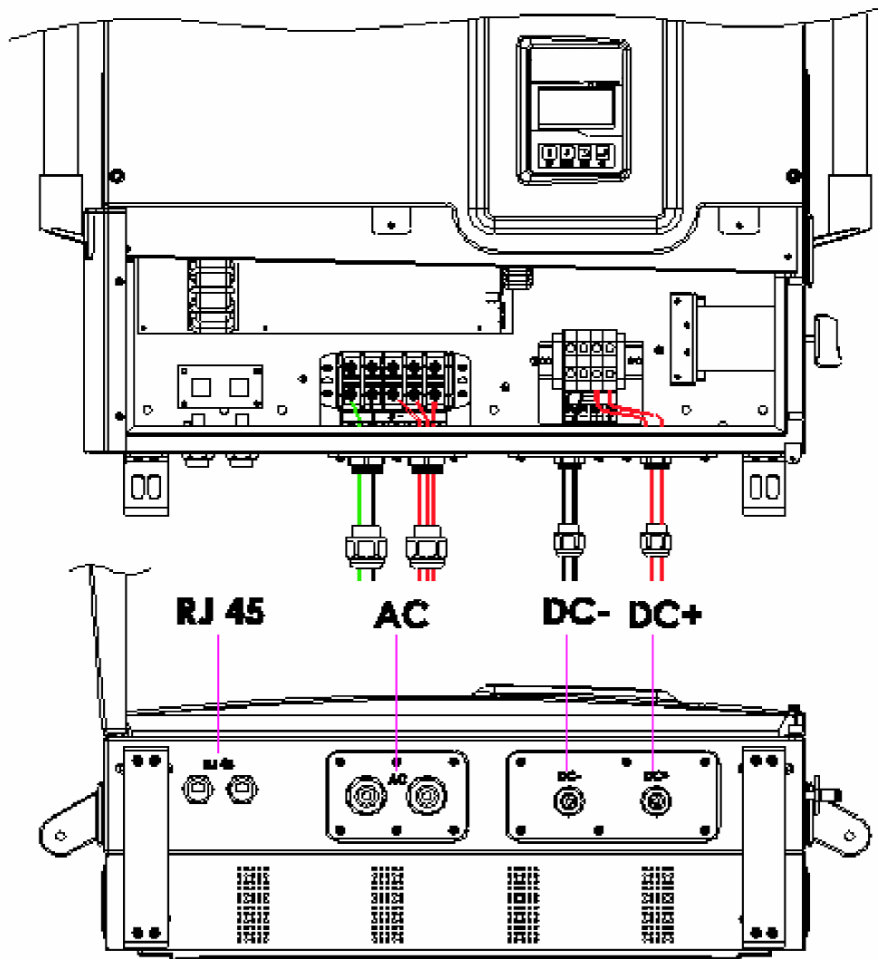

Fig 2.3.5 Wiring box front view
The following three sections describe the wiring for the AC, DC, and communication ports. The wiring shall be carried out in the wiring box for the ISMG315 and ISMG320. There is a DC terminal block, two (2) RJ-45 connectors, and one (1) AC terminal block in the wiring box as shown in Figure 2.3.5. The DC terminal block is used to connect up to two (2) PV strings individually or in parallel in the wiring box. The RJ-45 connectors are used for external communication to a remote computer or terminal. The AC terminal block is used to connect to the utility grid, through a circuit breaker and distribution panel, according to national and local requirements.